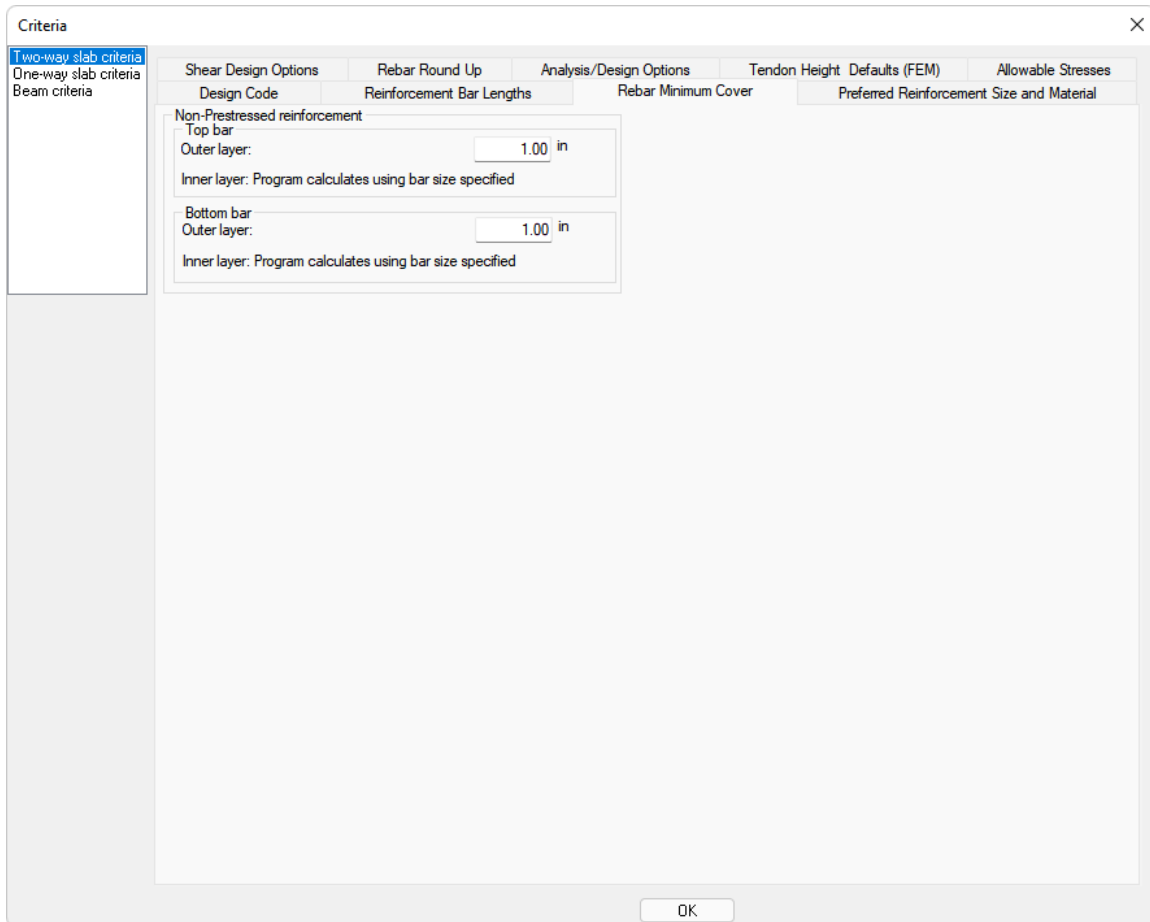

Figure 2-12
- Click on the **Rebar Minimum Cover** tab. This will open the window from **FIGURE 2-12**.